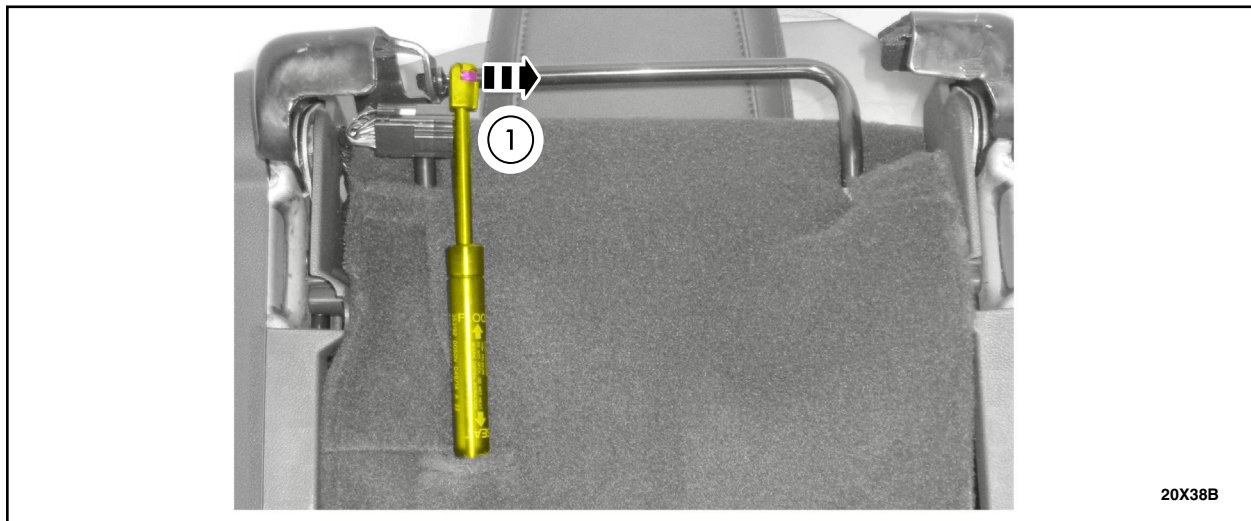

FIGURE 2
3. If equipped, disengage the clip securing the hydraulic ram and position the hydraulic ram aside. See Figure 2.
19. If equipped, reattach the clip securing the hydraulic ram. See Figure 2.